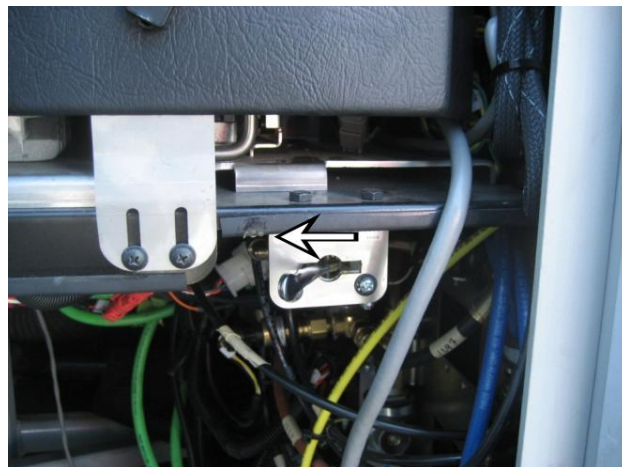

FIGURE 58: LOCATION OF COMMUTER TAG AXLE AIR VALVE
7. On X-Series commuter vehicles only, the tag axle air valve lever is located in the front service compartment. Move it forward as shown on Figure 58.